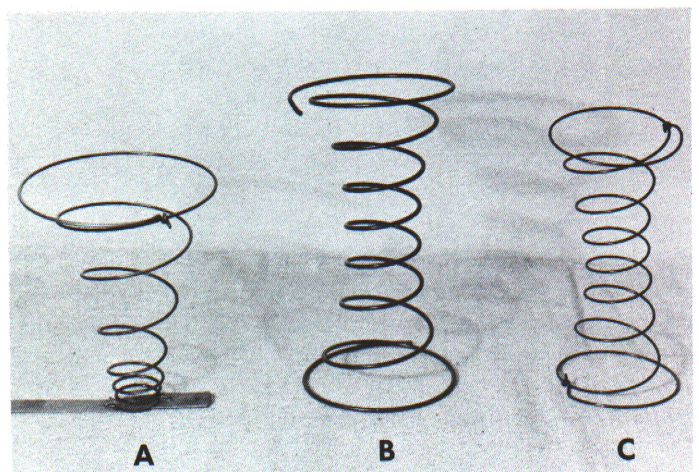

Fig. 4—Springs—
- a. Cone springs on band or bar. (Fig. 4). Sold by length of bar. Don't use on webbing.
- b. Hourglass shape (Fig. 4) heavy for seat, and light for back.
Mark the position of each spring on the webbing. Remove all but one of the corner springs which you will sew first. Be sure this spring is right side up. On top, the spring wire is either bent down or twisted around the first coil (Fig. 4). This is to keep the sharp end of the spring from working through the padding. Place the loose end of the spring on the side toward the center of the seat. Thread about 36 inches of mattress or upholsterers' sewing twine into a straight upholsterers' needle or sack needle. Fasten the twine with a heavy knot on the bottom of the webbing. Take three or four closely spaced stitches over the bottom spring coil and very close to it, in four different places. (Fig. 13) Carry the twine under the webbing to the next spring. Space stitches so you can move from one spring to another without cutting the twine. When new twine is needed, tie it on the end of the first piece. When all springs are sewed, tie the twine to fasten.